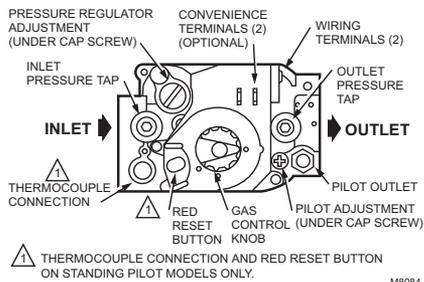
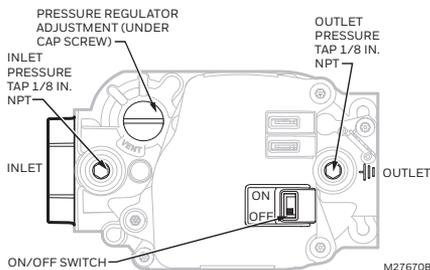

Fig. 1. Top view of VR8205 combination gas control.
Fig. 3. Top view of VR8215S, T combination gas control.
2. Remove metal cap screw and plastic pressure adjustment screw. Refer to Fig. 1 to Fig. 3.
- Remove metal cap screw. Refer to Fig. 1 to Fig. 3.
- Remove outlet pressure tap plug from gas control and connect pressure gauge. Refer to Fig. 1 to Fig. 3.